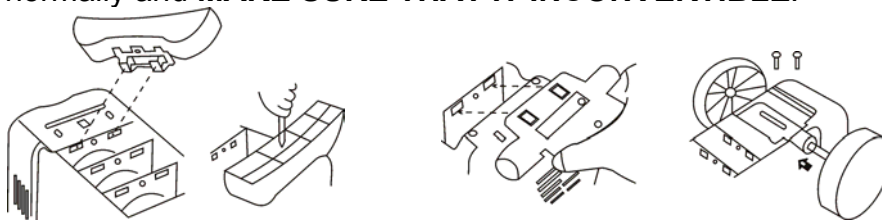

fig. 1
- Fit the foot at the bottom front part and secure it with a screw (fig.1)